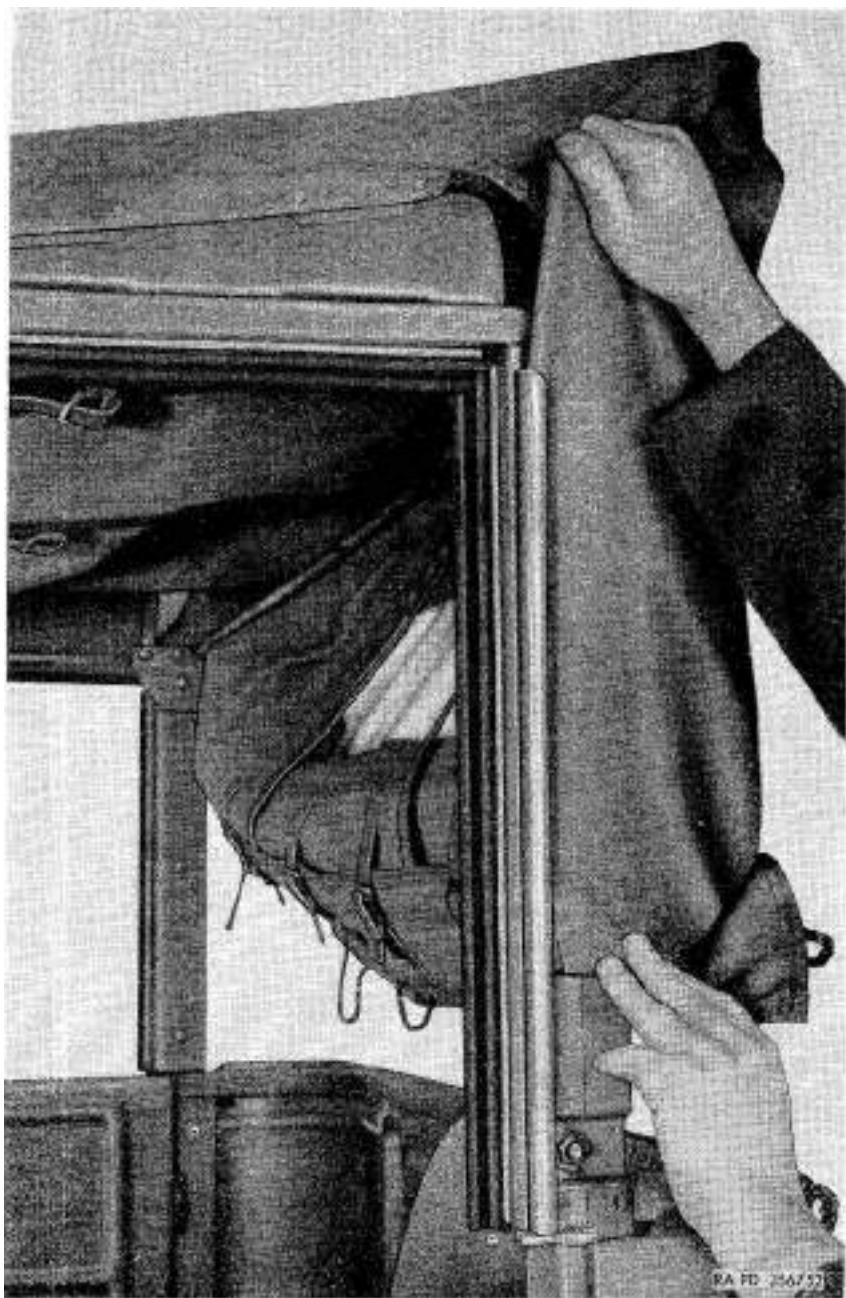

Figure 19. Removing top cover from top side rail supports.
- (3) Pull top cover up from left and right top side rail-support retainers (fig. 19).